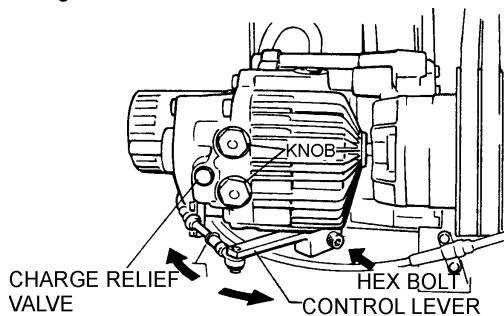

Figure 37. Unscrewing Left Lock Nut
1. Loosen the hex socket head bolt M10 used for mounting the control lever on the underside of the transmission (Figure 37).